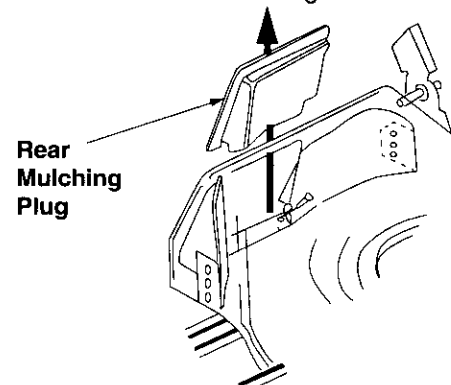

Figure 8
- If your mower is equipped with a mulching plug, and it is in place on the mower, lift the rear discharge door and remove the rear mulching plug from the mower. See Figure 8.
- Insert the mulch plug. See Figure 8.